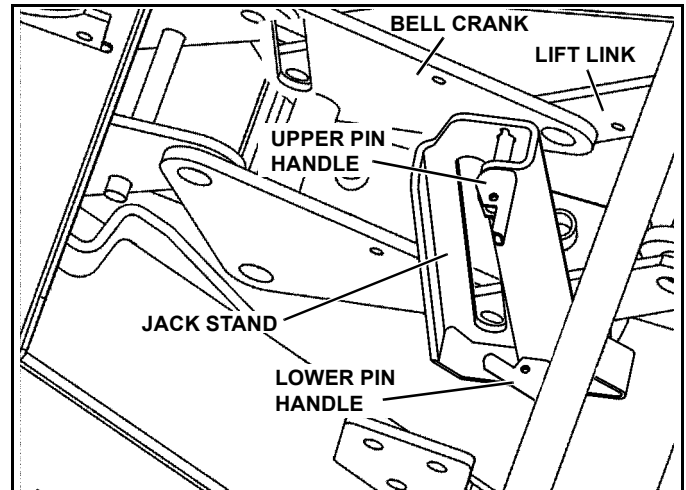

Figure 1-19
5. Disengage both jack stand pins by pulling on handles. Raise the jack stand and engage the bottom pin by pushing on the handle. Make sure pin is engaged in hole by rotating jack stand back and forth. (See Figure 1-19).